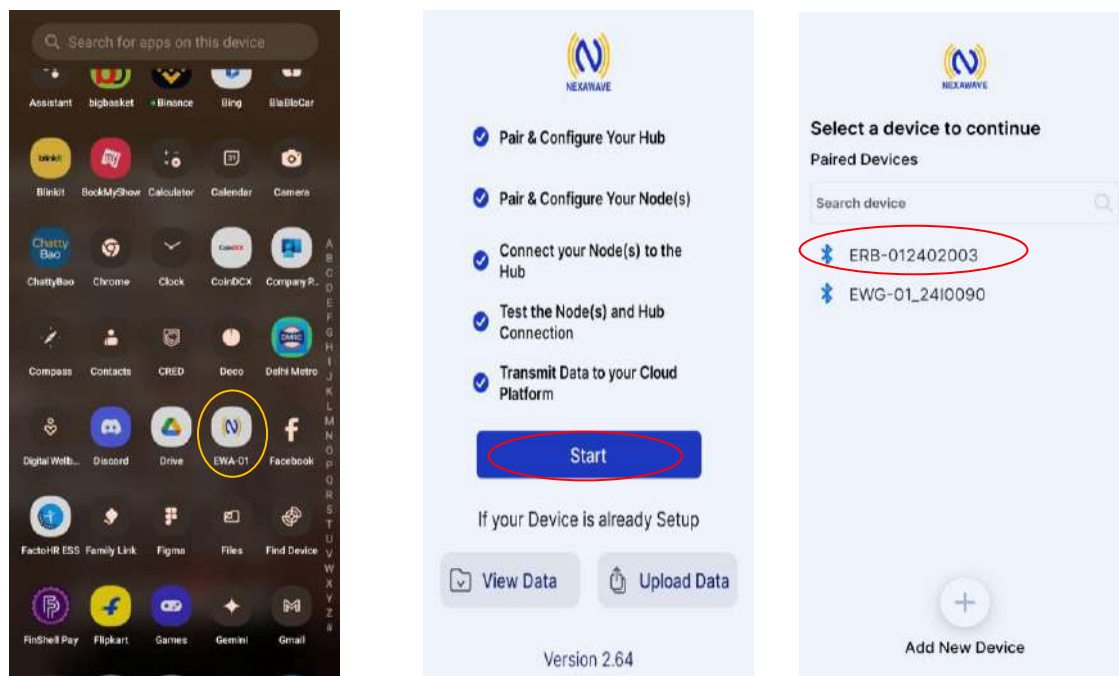
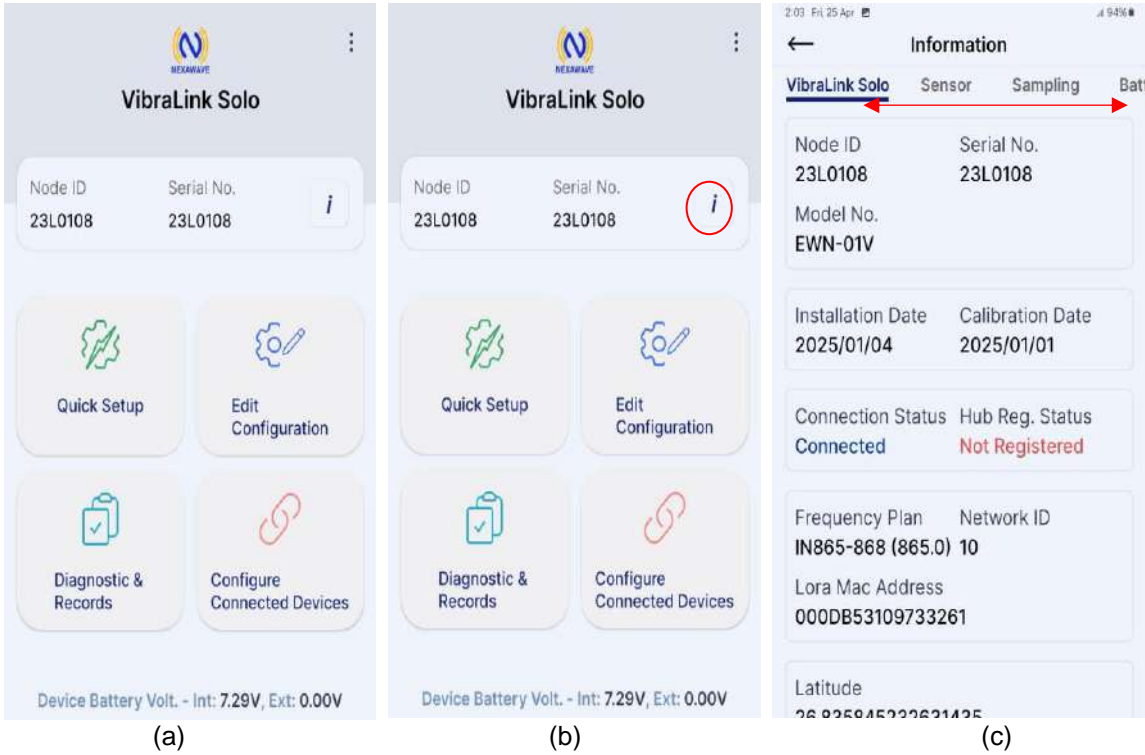

Figure 5-12
Figure 5-13
- Open the "EWA-01" apk installed on an Android phone. It will show the list of paired Nodes as shown in Figure 5-12. Select the Node that you paired earlier from the list. It will take you to the home screen of the Node, as shown in Figure 5-13 (a).
- It will take you to the home screen of the VibraLink, as shown in Figure 5-13 (a). Clicking on the 'i' button (Figure 5-13 (b)) will open the information window. Within this window, you can scroll to view information about the VibraLink, sensor, sampling, battery, bluetooth, and the phone (Figure 5-13(c)).